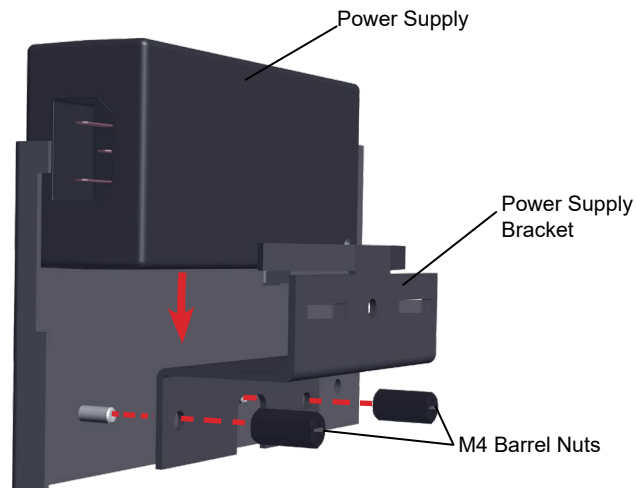

Figure 29. Reinstall bracket and power supply on long rack ear
3. Attach the power supply bracket to the longer (R) rack ear with 2 M4 barrel nuts and insert the power supply with power cord outlet located to the back (Figure 29).